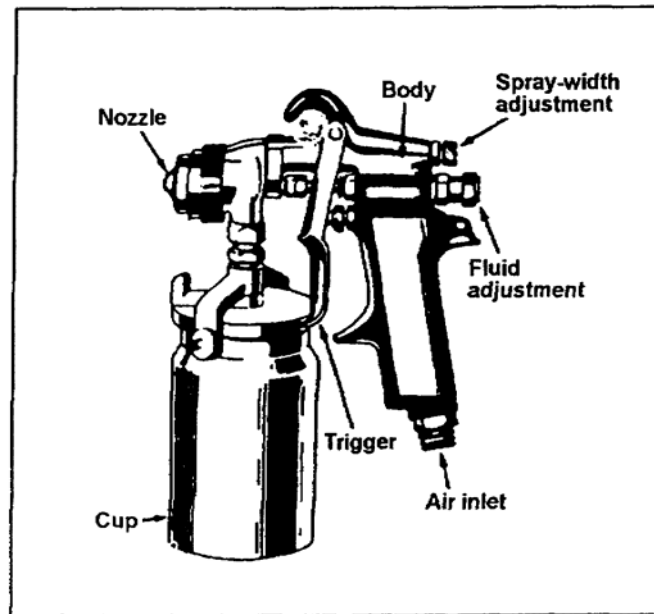

Figure 3-38. Attached-container spray gun
g. Attached Container. This spray gun (Figure 3-38) is usually referred to as a cup type since the paint is held in a cup that is attached to the bottom of the gun. Cup-type spray guns, which require only an air hose, are used extensively in military painting.